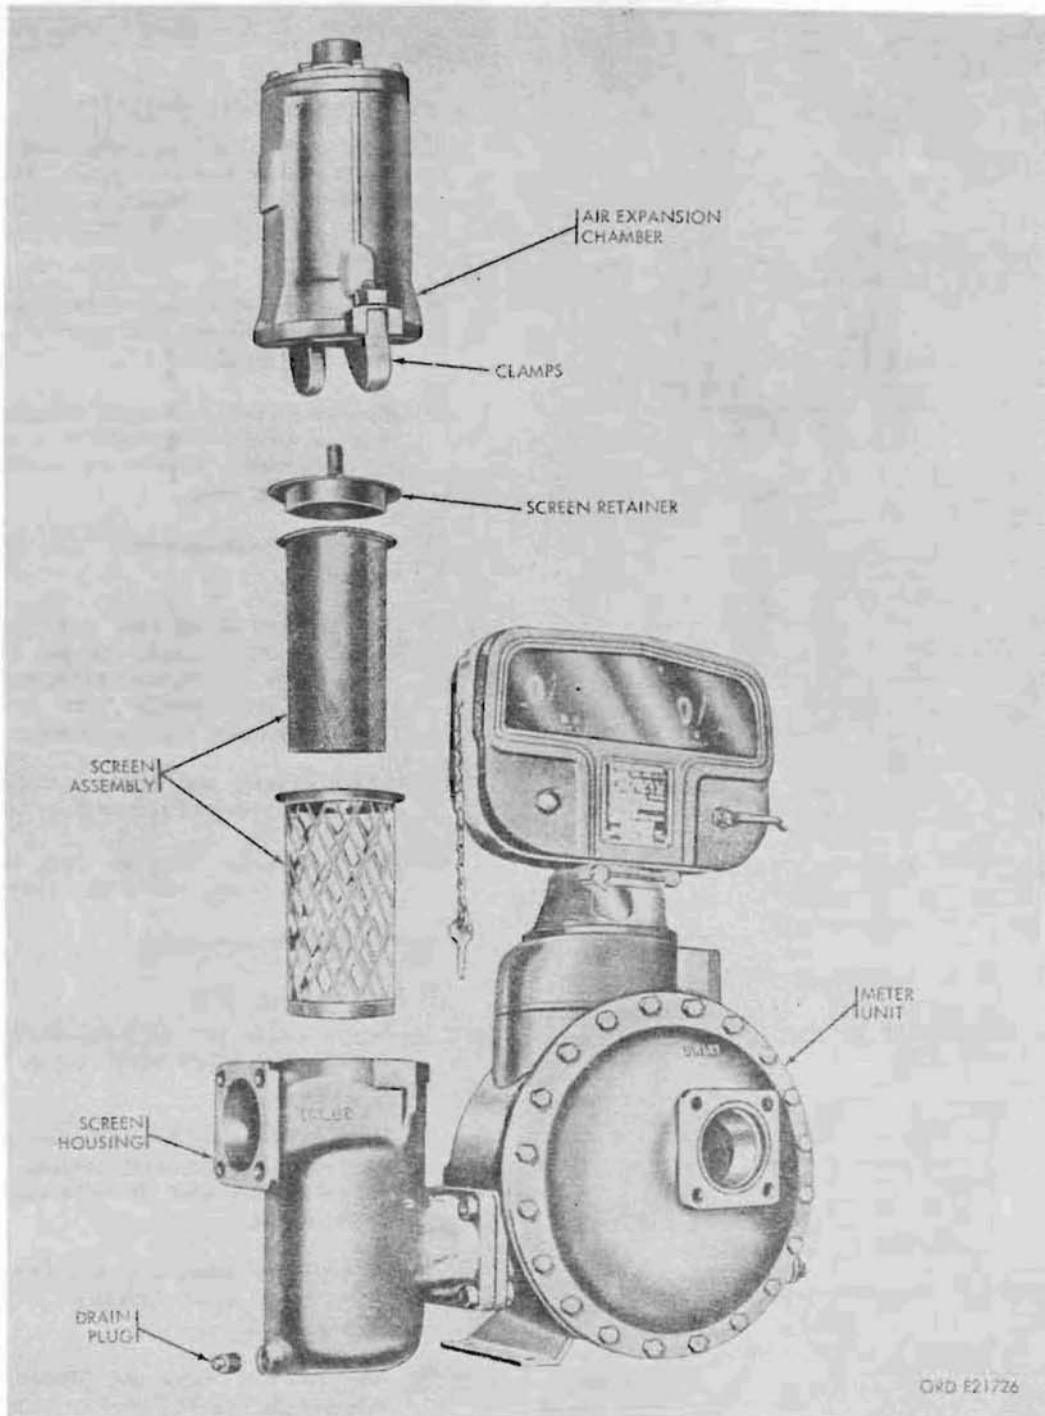
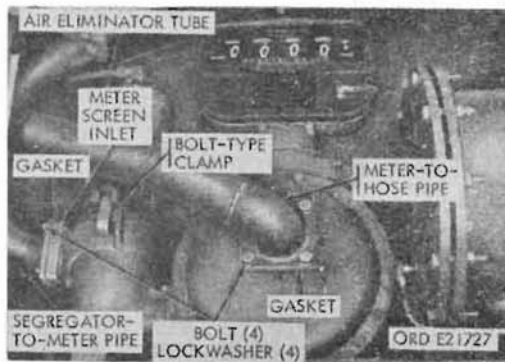

Figure 291. Servicing meter screen
Figure 292. Meter disconnect points
b. Meter Screen Cleaning (Fig. 291).
- (1) Drain meter into an authorized container for combustible liquid. Earlier vehicles have a drain plug; later vehicles are equipped with a drain valve and hose.
- (2) Remove air eliminator tube from top of meter strainer and push it aside carefully (fig. 292).
- (3) Disconnect two bolt-type clamps securing air expansion chamber to meter screen housing. Remove air expansion chamber (fig. 291).
- (4) Remove screen assembly from screen housing.
- (5) Wash screen in mineral spirits paint thinner or dry-cleaning solvent. Using only a fiber bristle brush, remove all sediment and deposits from screen. Thoroughly clean screen housing.
- (6) Install screen and other components in reverse order of removal.
- (7) Test complete system for leaks. Tighten or repair where necessary.
- (1) **Removal** (fig. 292).
- (a) Drain meter into an authorized container for combustible liquid (b(1) above).